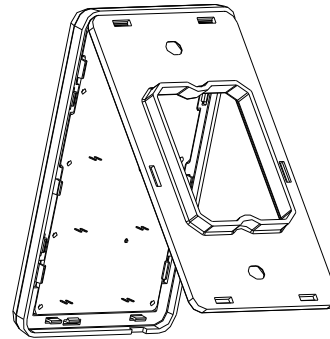

FIG. 6 ATTACHING THE FACEPLATE TO THE MOUNTING FRAME
6. Attach the faceplate to the mounting frame first at the top and swing it to the bottom. See FIG. 6
6. Attach the faceplate to the mounting frame first at the top and swing it to the bottom. See FIG. 6.